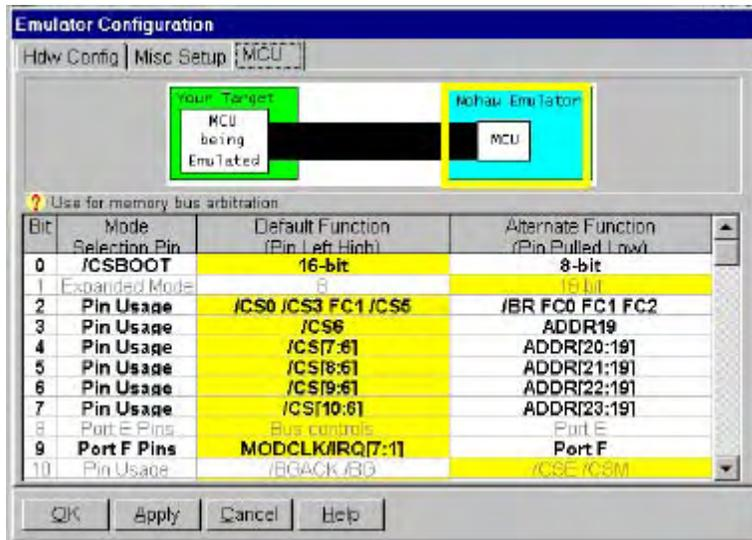
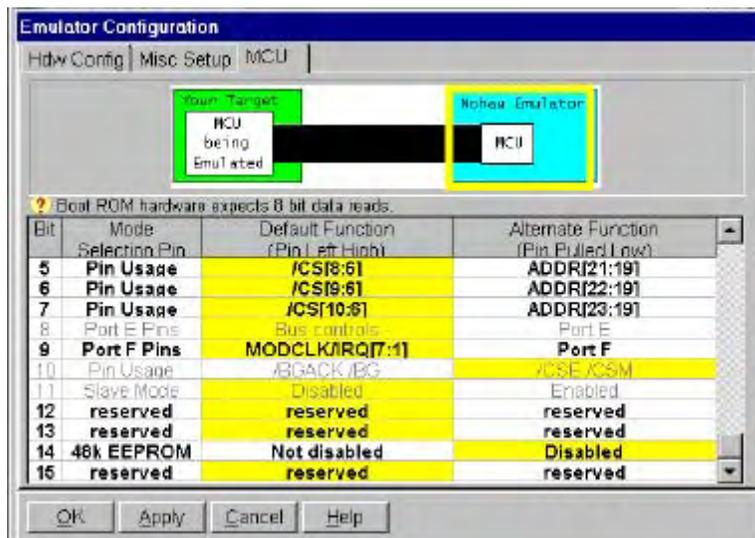

Figure 80. Emulator MCU Values
Figure 81. Emulator MCU Values
11. Move your cursor over the graphic at the top labeled **Nohaw Emulator – MCU** and select it. The colored box moves back to the right and the initial dialog box reappears (Figure 80 and Figure 81). Some of the text in this box is bold and some text is faded. The faded text is not selectable. The column labeled **Default Function (Pin Left High)** is initially colored green. Move your cursor over the last column **Alternate Function (Pin Pulled Low)** and select the following boxes if not already selected (boxes already selected will be green in color).